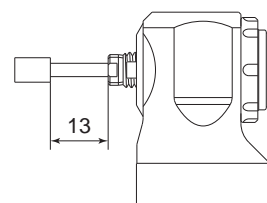

Fig. 14
- ① The proper surface speed for general grindstones is 10 - 30m / s.
- ② Do not exceed 13mm of overhang for mounted grindstones as shown in Fig. 14. If the overhang must exceed 13mm, reduce the Air Motor Spindle speed in accordance with Table. 3.
- ③ Dress the grindstone prior to use.
- ④ Do not use cutting tools with bent or broken shanks, cracks or excessive run-out.
- ⑤ For grinding, the maximum depth of cut should not exceed 0.01mm radially or axially. Reciprocate the tool several times after each pass to eliminate tool pressure.
- ⑥ Always operate cutting tools within the allowable recommended speed of the cutting tools. Use of a cutting tool outside of the allowable speed of the cutting tools could cause damage to the spindle and injury to the operator.
- ⑦ Keep the cutting tool shank and collet clean. If contaminants are left in the collet, excessive run-out will cause damage to the cutting tool and or spindle.
- ⑧ Do not strike or disassemble the Air Motor Spindle.
- ⑨ Please set the cutting tools to minimize the overhang amount. 13mm is the maximum amount of overhang to maintain high accuracy and safety.